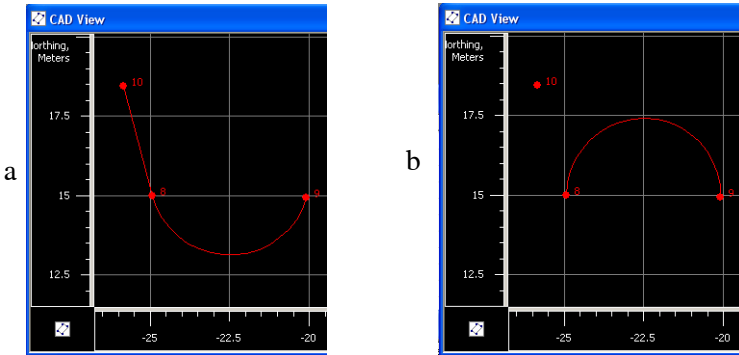

Figure 5-48. Example of curve by 2 points
- the radius of the curve depends on both the end azimuth of the previous segment of this line and the start/end point coordinates (Figure 5-48 on page 5-40a).